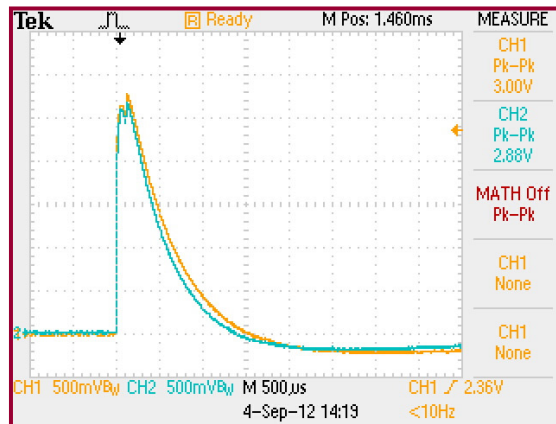

Figure 5.0-5: Typical ΔV for a "good" bag (12V)
- d. Set the "SINGLE SEQ" button and initiate a discharge. For a "good" shielding bag, ($\Delta V < 30V$) the waveform should look similar to that shown in Figure 5.0-5. If the signal levels of CH-1 and/or CH-2 exceed the dynamic range of the scope sensitivity level selected this will cause the input amplifier to saturate, causing a significant measurement error. This condition normally occurs when buried metal layer bags are tested and 50, 100 or 200 mV sensitivity levels are selected to obtain greater voltage differential resolution.